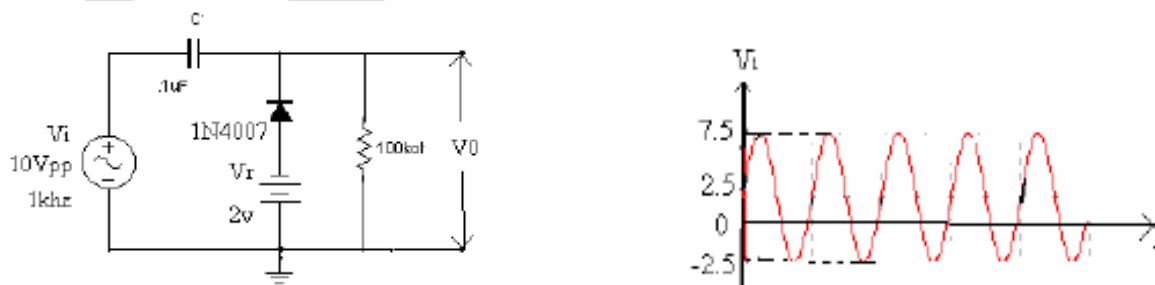

Fig.3.6 Positive clamping with Negative reference voltage
5. Repeat the above steps for all clamping circuits (fig 3.2 to fig 3.6) as shown.